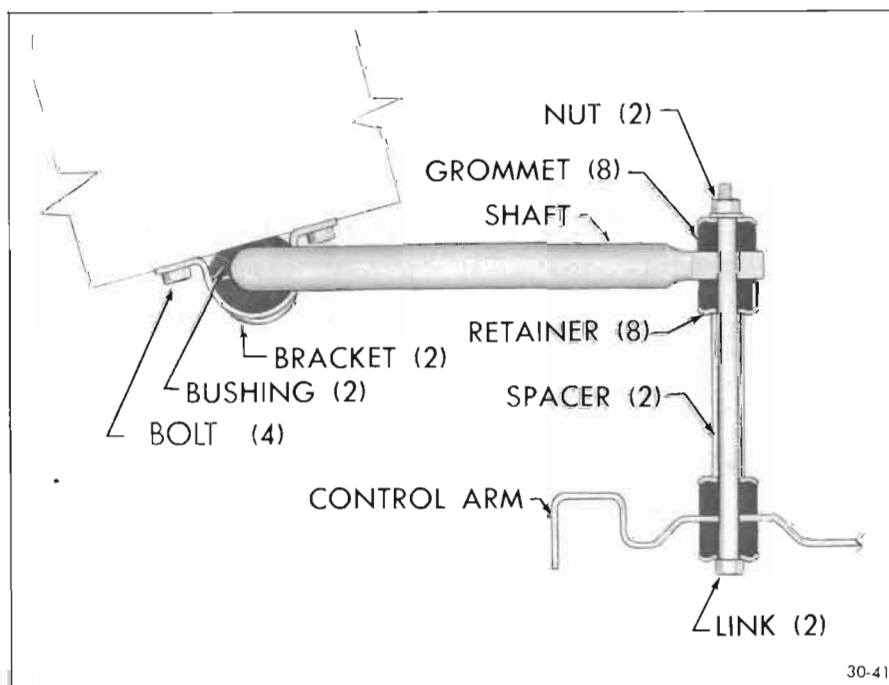

Figure 30-41—Stabilizer Link Assembly
1. Remove nut from upper end of link. Remove link, spacer, retainers and grommets. See Figure 30-41.